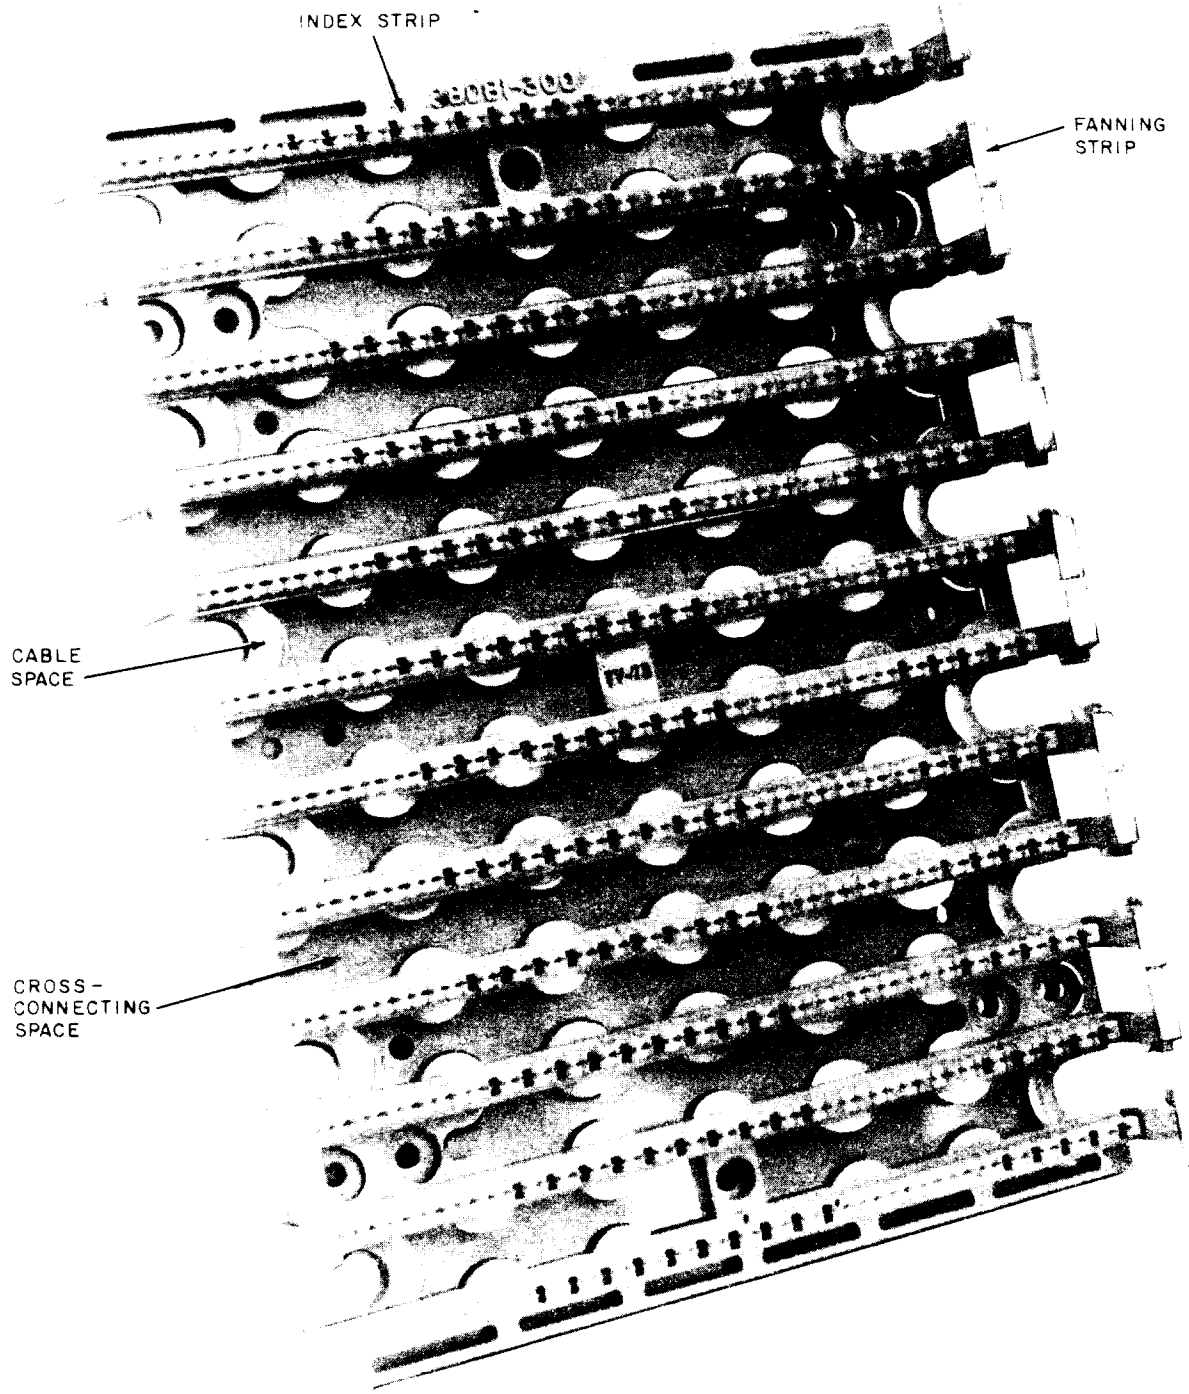

Fig. 2—Wiring Block
1.09 The names of the various parts of the wiring block on which the connecting blocks are placed are shown in Fig. 2.